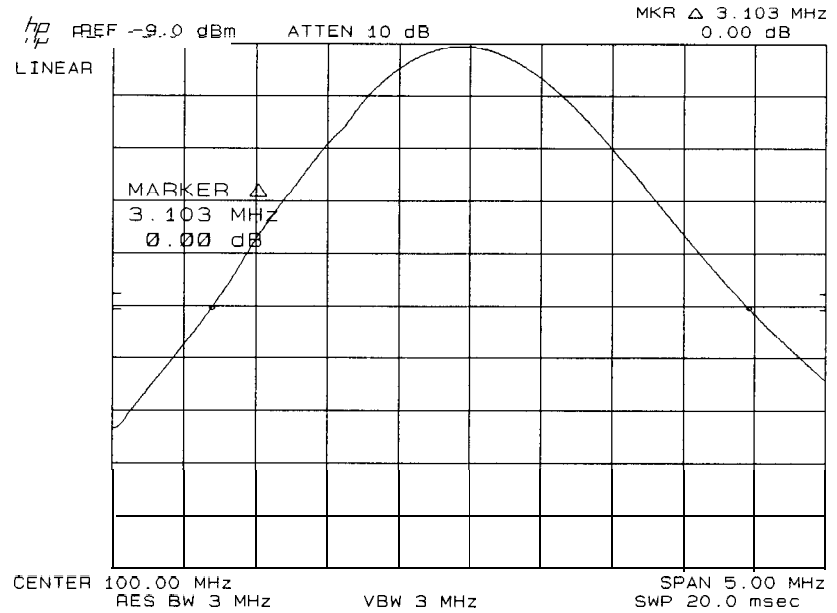

Figure 4-1. Resolution Bandwidth Measurement
7. Press MARKER [a] and position movable marker 6 dB down from the signal peak on the negative-going edge of the trace (the MARKER A amplitude readout should be .00 dB f0.05 dB). The 6 dB bandwidth is given by the MARKER A frequency readout. (See Figure 4-1.) Record this value in Table 4-1.